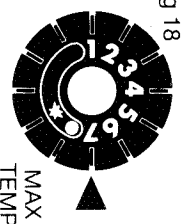
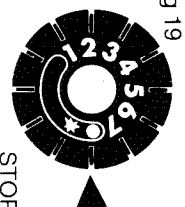

Fig 18
Fig 19
4. Hold the knob completely down until the needle on the indicator instrument has gone up at least to the middle of the green area, this means that the boiler is lighting. You can also check through the peep pane in the front plate if the pilot light is burning. When the boiler is lit and the needle is furthest to the right in the green area, the thermostat knob can be let up. If the needle does not stay on the green area, it means that the boiler has quenched. Turn the knob back to stop position (see fig 19).
5. If the needle remains on the green area after 10 seconds, the thermostat knob is turned to the working position (see fig 18) and desired boiler temperature is set (min 30° C max 80° C). If for any reason the boiler should quench, even if it is due to having run out of gas, the thermostat knob should be turned to the stop position (see fig 19). The boiler should not be relit for 3 minutes as gas remaining in the combustion chamber may cause a ignition puff.
1. Turn the thermostat knob to the stop position (see fig 19). After about 20 seconds you should hear a "click" from the automatic equipment, this means that the ignition fuse has turned off the gas supply.